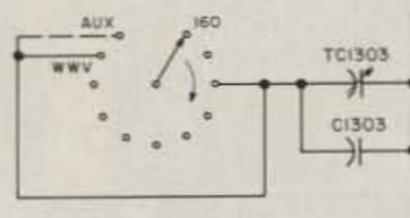

Fig. 2. S1C.
4) On S1C, remove any jumper that may be connected to lug 11 and tie lugs 3 (40 meter) and 11 (AUX) together (Fig. 2). The trimmer B unit will have to be removed temporarily to get at the switch lugs. Simply remove the screws that hold the circuit board in place and carefully move trimmer unit B out of the way; there is no need to disconnect any wires.